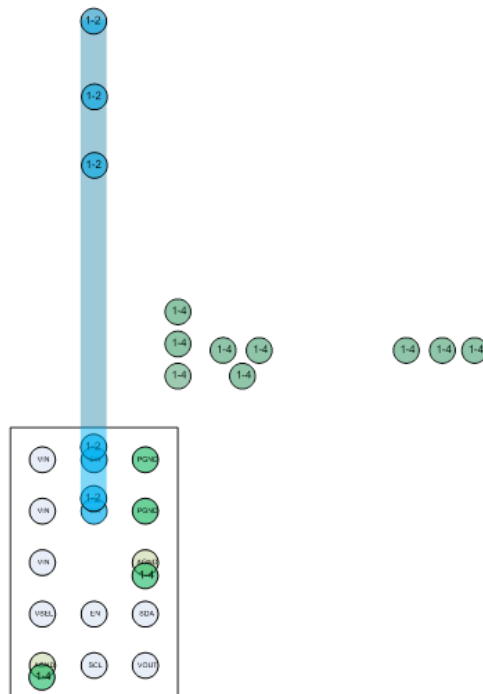

Figure 25. Layer 2
1. The input capacitor (C_{IN}) should be connected as close as possible to the VIN and GND pins. Connect to VIN and GND using only top metal. Do not route through vias (see Figure 25).
2. Place the inductor (L) as close as possible to the IC. Use short wide traces for the main current paths.